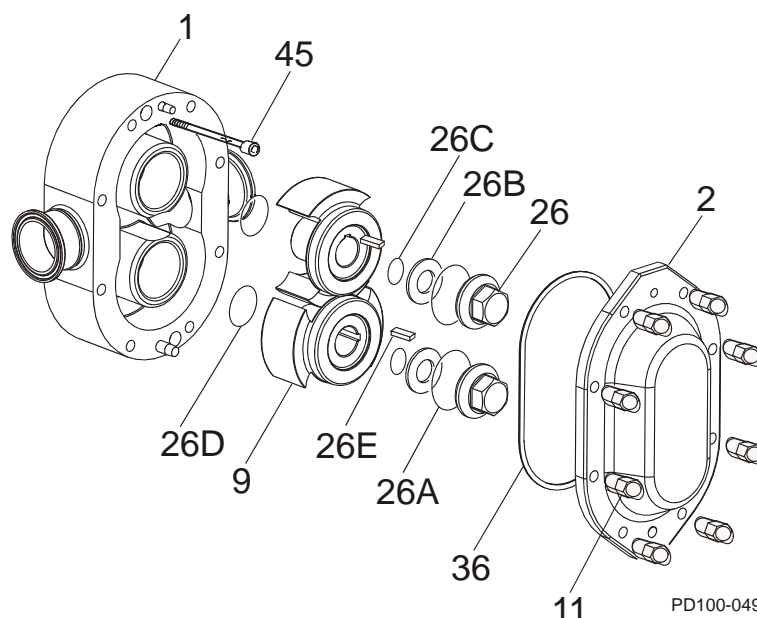
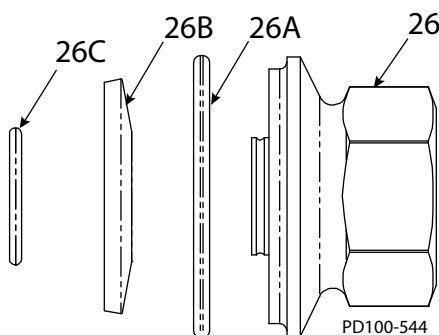
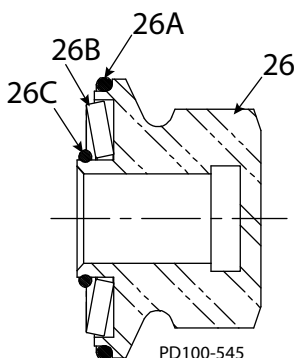

Figure 68 - Exploded View of Fluid Head
Figure 69 - Detail View of Rotor Nut Assembly
Figure 70 - Cross-Section View of Rotor Nut Assembly, as Assembled
2. Install the body (Figure 68, item 1) to the gear case assembly, aligning the body with the body studs. Avoid damaging the seals as the body is drawn over the shafts.
3. Secure the body to the gear case using two cap screws (Figure 68, item 45).
1. Lubricate the rotor hub o-ring (Figure 68, item 26D) with a lubrication compound compatible with the o-ring material and process fluid(s).
2. Install new rotor hub o-rings (item 26D) into the groove on the rotor hubs.
3. Install the rotors (item 9) onto the shafts.
4. Align the keyways in the rotors with the keyways on the shafts and install the keys (item 26E).
NOTE: For rotor nut assembly detail, including orientation of the belleville-style washer (item 26B), see Figure 69 and Figure 70 on page 42.
Table 9: Callout table for Figure 68
See Figure 68 on page 41, and Figure 69 and Figure 70 on this page.
1. Clean the cover o-ring (See Figure 68, page 41, item 36) and install it in the groove in the cover.
3. Install the cover (See Figure 68, page 41, item 2) on the pump body.
5. Tighten the cover securely using the cover nuts (See Figure 68, page 41, item 11).